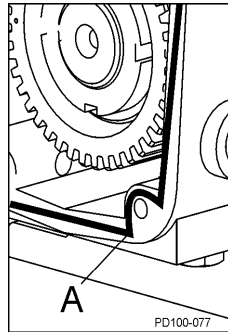

Figure 295 Sealant Placement
3. Apply silicone sealant to the back of the gear case. (Gore-Tex® sealing tape can be used on silicone-free models.) Place tape on the inside of the screw holes. (Figure 295, item A).